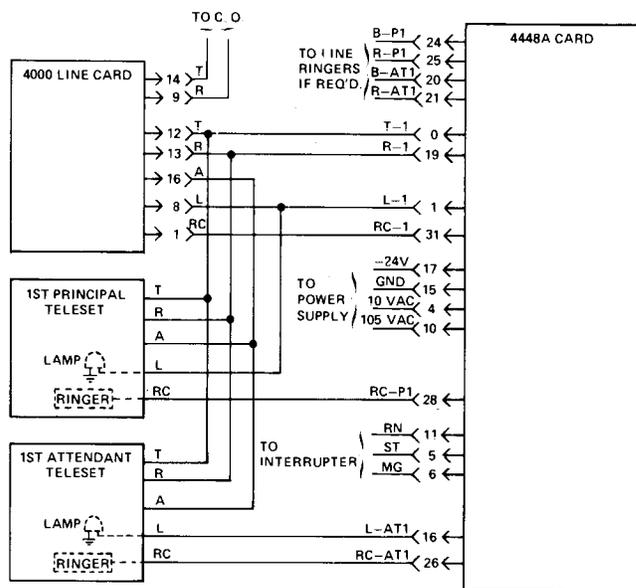
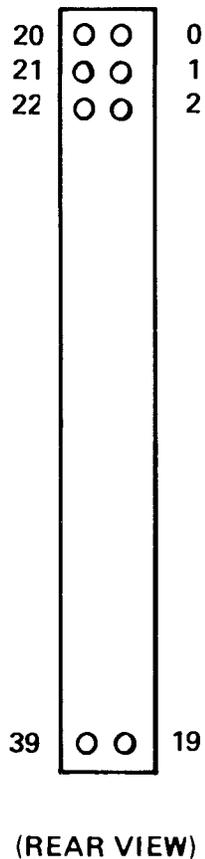

Fig. 2 Installation Connections
Fig. 3 Connector Pin Numbering
5.1 The San/Bar 4448A card has pin assignments identical to the WE 448 card. Fig. 2 illustrates the typical connections to be made. Only circuit 1 connections are shown, however since circuit 2 is identical the connections are made in the same manner. To avoid damage to the card, careful attention must be given to the pin numbering of the shelf connector. Figure 3 illustrates pin numbering for a 40-pin connector.